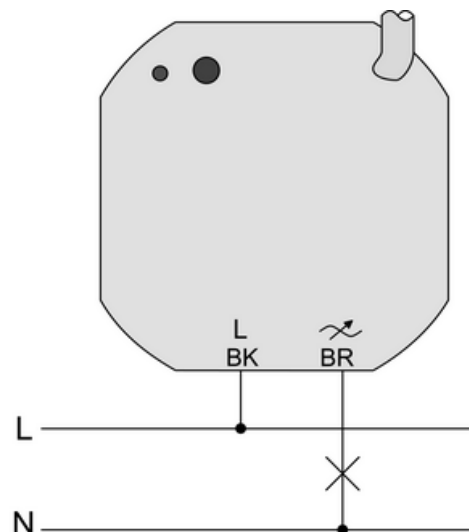

Figure 5: Connection
- Connect the load (figure 5). Use the supplied sprung screwless terminals. Flexible cable ends must be tin-plated.